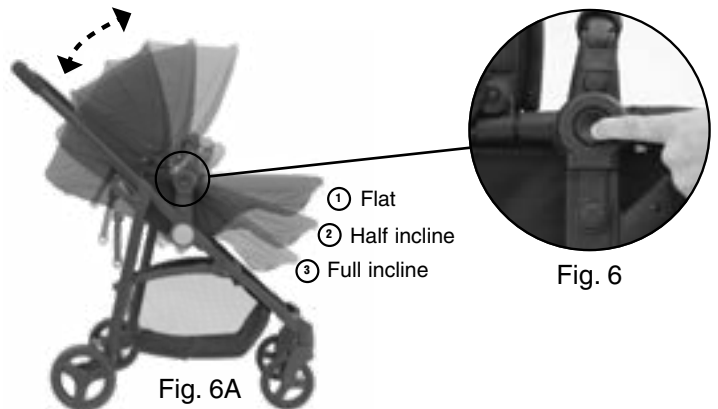

Fig. 6A
- While safety release buttons are held, adjust angle to one of 3 positions - flat, half incline, and full incline (Fig. 6A).